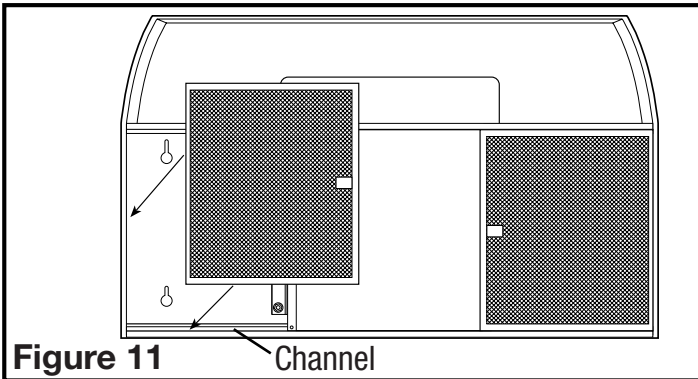

Figure 11
2. Reinstall the filters by fitting them into the channel on either side of the hood and pushing upwards on them until they are secured in place (**Figure 11**).